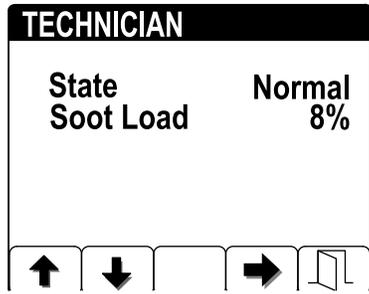

Figure 9
- View the soot load which is measured as the percentage of soot in the DPF (Figure 9); refer to the soot-load table.